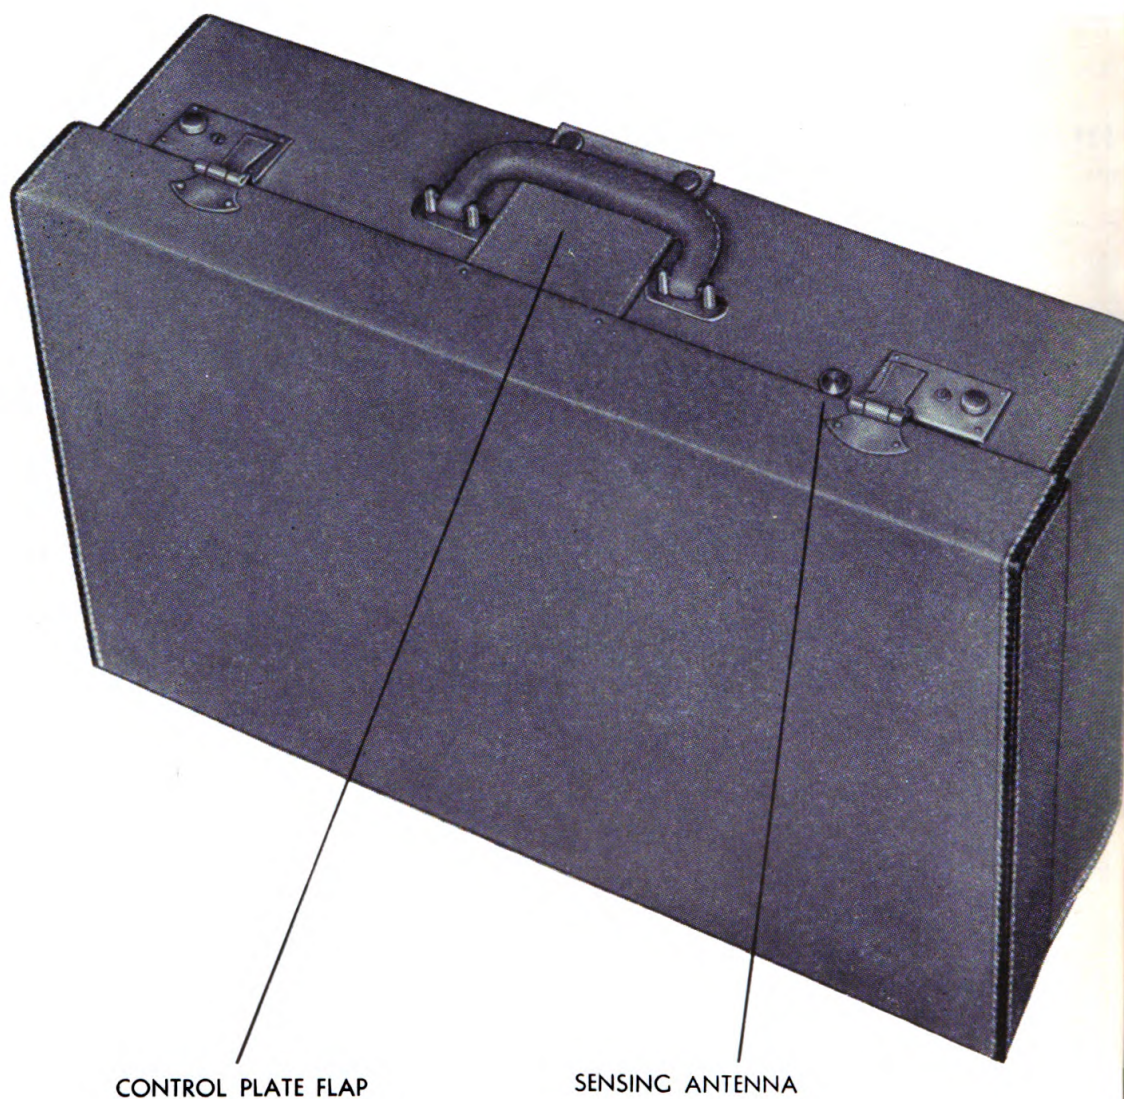

Figure 1. Radio Receiver BC-792-A, Outside View
In figure 1 you see Radio Receiver BC-792-A as it looks to the ordinary person—just another pigskin suitcase. In figure 2 you see the suitcase open showing the radio set, while in figure 14 you see “yourself ” carrying the receiver and operating it as you walk. It's true—you can “direction find”—d/f—as you walk along, or you can set Radio Receiver BC-792-A on the ground, or on a tree stump, and d/f from there.
**4. Radio Receiver BC-792-A** (figures 1, 2)—Radio Receiver BC-792-A, housed in a suitcase, is an 8-tube superheterodyne covering a frequency range of from 100 kc to 65 mc. in eight bands. It is designed to receive either continuous-wave or amplitude-modulated signals. A complete set of tubes is installed in Radio Receiver BC-792-A when it reaches you. The tuning dial is calibrated in megacycles. Power supply for Radio Receiver BC-792-A is a set of miniature storage batteries (one 6-volt and two 36-volt) which are housed in an easily-accessible compartment on the receiver panel. The panel VOLUME control is used when the suitcase lid is open; when the lid is closed the VOLUME control on the plate under the carrying handle is used (figure 11). These two controls are electrically independent—the VOLUME CONTROL TRANSFER disengages the inside control and engages the outside control when the lid of the suitcase is closed.